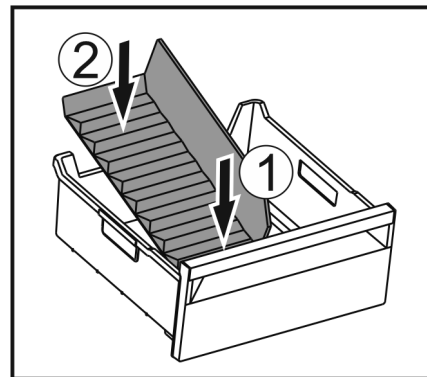

Fig. 131
- Insert the front part of the ice compartment divider. Fig. 131 (1)
- Lower the rear part of the ice compartment divider to the drawer bottom. Fig. 131 (2)